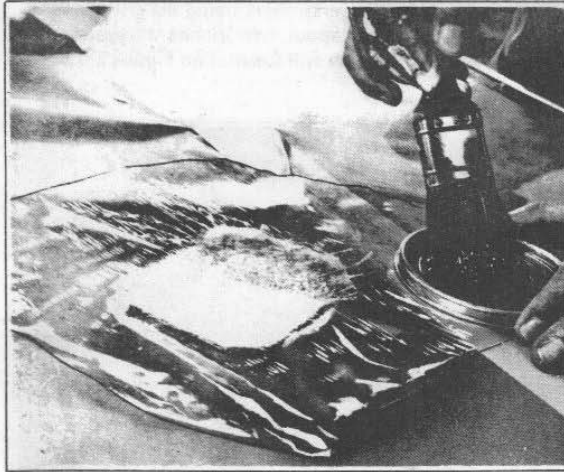

Figure 2-75. Applying Resin to Mat
6. Mix small amount of pre-accelerated resin and catalyst and daub resin on mat, thoroughly wetting it out. This may be done on a piece of cellophane or wax paper. See Figure 2-75.